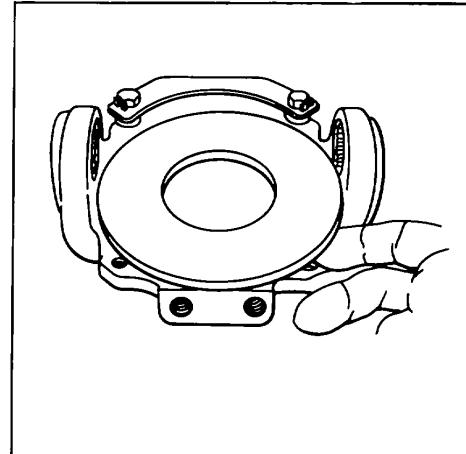

Figure 134.
9. Match up dowel pin (34) in cam (12) with dowel pin hole in wear plate (20) and seat wear plate (20) in cam(12) See Fig.134.Check proper seating